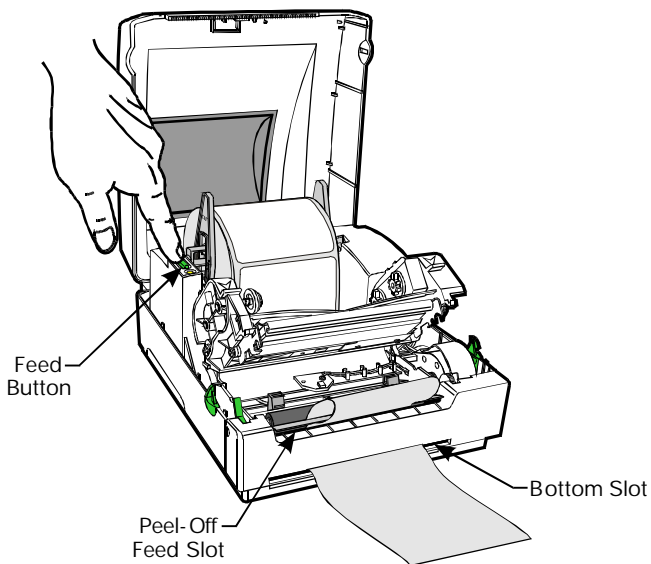

Figure 15
12. Insert the label backing into the peel-off feed slot (refer to Figure 15).